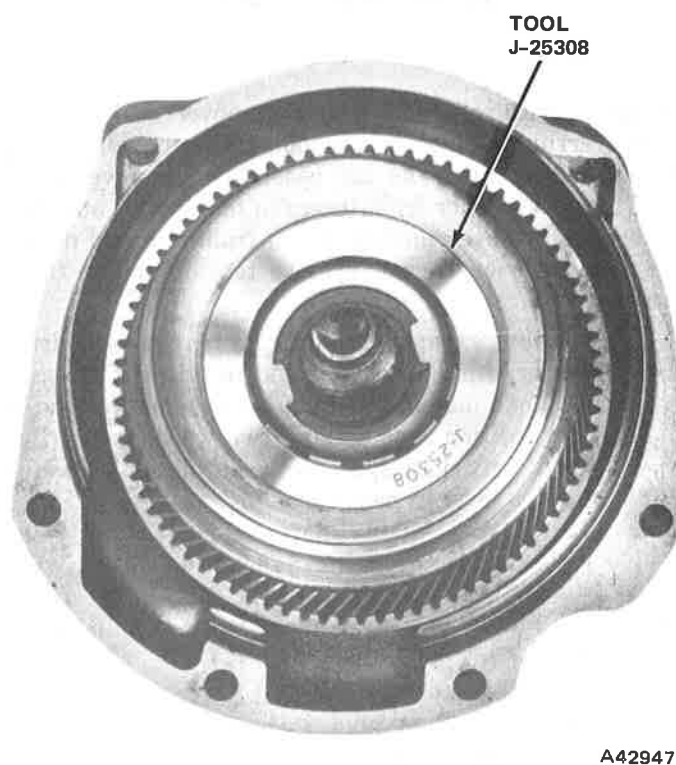

Fig. 6-47 Overrunning Clutch Removal and Installation
(18) Insert overrunning clutch Remover-Installer Tool J-25308 into bore in main shaft annulus gear (fig. 6-47). Hold tool in position, reach through tool with
annulus gear (fig. 6-47). Install brass oil slinger, with shoulder facing out, and install overrunning clutch snap ring. Be sure snap ring is fully seated in its groove.